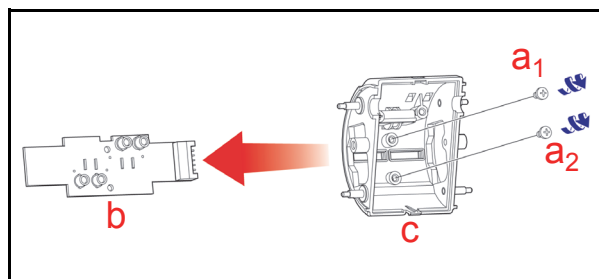

Figure 4-13 Upper Guide Sensor Board Removal
10. Remove the two (2) Sensor Circuit Board Mounting Screws (See Figure 4-13 a₁ & a₂).
11. Slide the loose Sensor Circuit Board (See Figure 4-13 b) out through the side opening slit provided to remove it from the Upper Center Guide Assembly (See Figure 4-13 c).